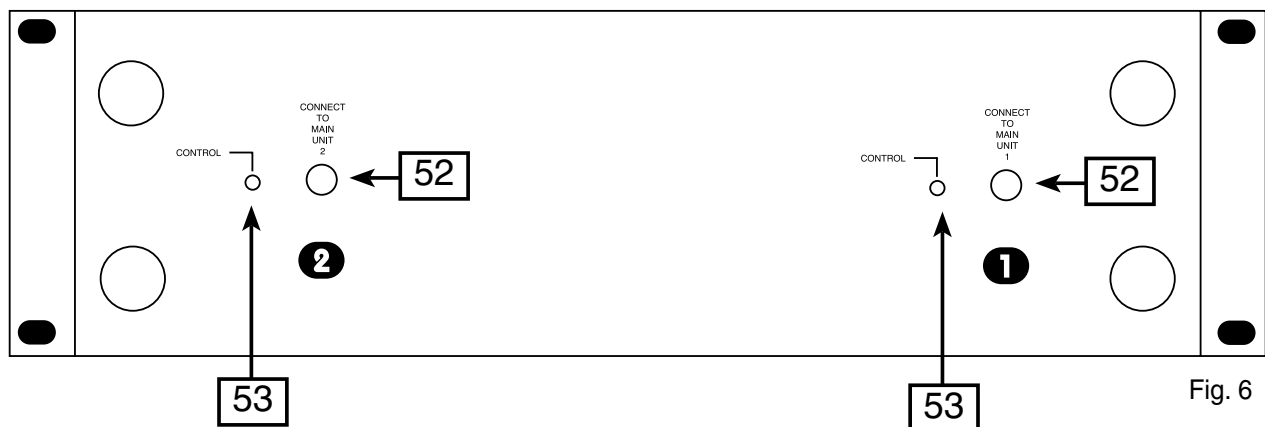

Fig. 6
D. CONTROL UNIT REAR PANEL (Figure 6)
52. CONNECT TO MAIN UNIT - Connect supplied 8-pin cable from REMOTE 1 on **MAIN UNIT (50)** to REMOTE 1 on CONTROL UNIT.